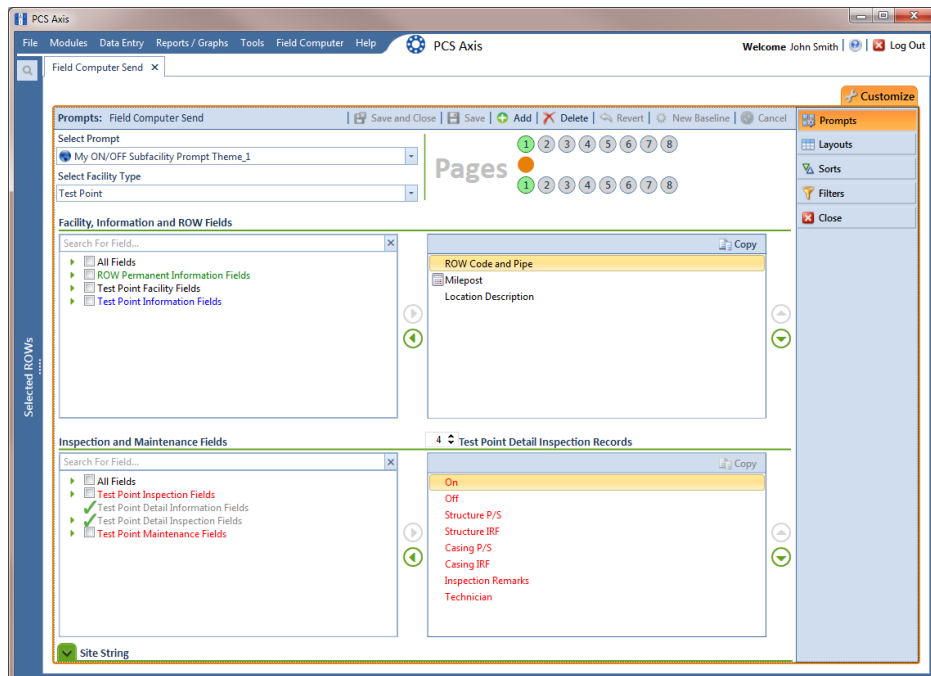

Figure 13-36. Test Point Detail Inspection Prompts
- 9 Verify the name of the new theme displays in the **Select Prompt** field. If not, click the down arrow and select the theme in the selection list (Figure 13-36, page 633).
- b** Double-click the fields labeled **ON** and **OFF** to move these fields to the right pane (Figure 13-36, page 633).